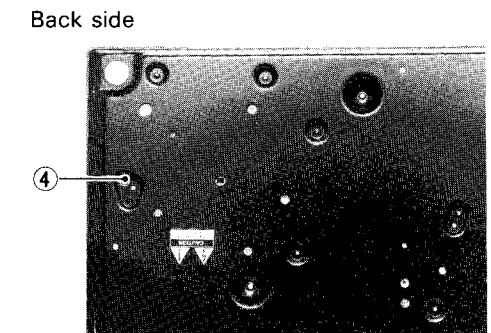

Fig. 15
2. Remove screw ④ as shown in Fig. 15.